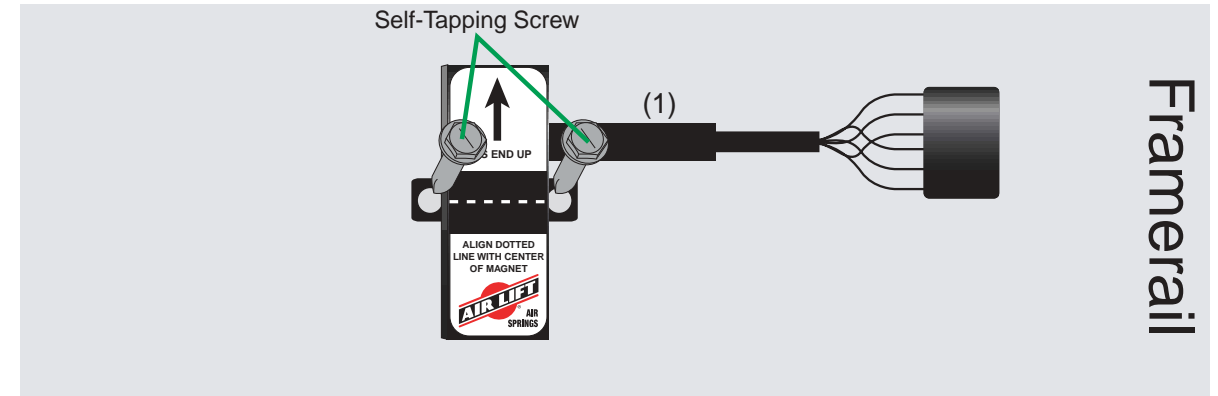

Figure 2
- Attach the height sensor to the framerail using the provided flat-head screws and nyloc nuts. Tighten securely (Figure 2).
- Using the two provided self-tapping screws, attach the height sensor bracket to the chosen frame-mounting location (Figure 2).